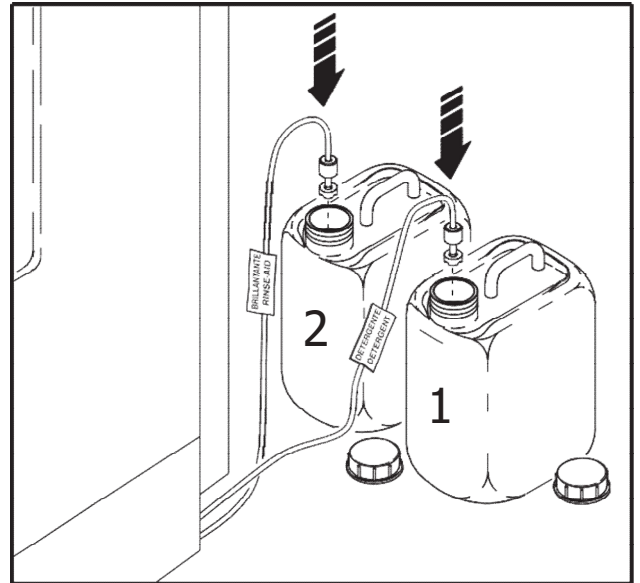

Fig. 22
- *Check the level of rinse aid and detergent in the external tank, and replace it if necessary (fig.22).*